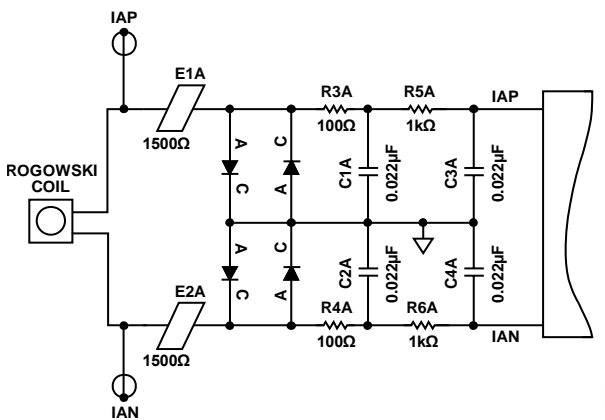

Figure 5. Example of a Rogowski Coil Connection
Figure 5 shows an example of a configuration using a Rogowski coil current sensor. The R1A and R2A burden resistors are not used in this configuration, and are therefore removed from the board. Because Rogowski coil sensors have a gain that increases with frequency (20 dB/decade), the high frequency components of the current signal are amplified by a larger factor. Therefore, two stages of resistor capacitor (RC) filtering are required to attenuate the high frequency components and to avoid aliasing. The R3A and R4A resistors must be 100 Ω and are used in conjunction with the 22 nF C1A and C2A capacitors to form a low-pass filter with a cutoff frequency of 72 kHz. This first stage is followed by the 1 kΩ/22 nF RC filter combination that provides a cutoff frequency of 7.2 kHz. The Rogowski coil must be chosen such that the IAP to AGND and IAN to AGND potentials do not exceed ±0.5 V peak.